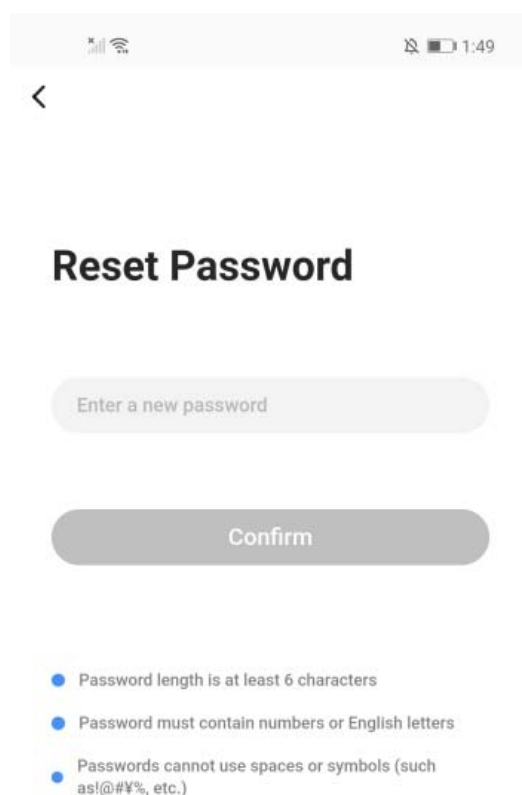

Fig.4
- 4) Click the “Reset Password”, it will jump to the Fig. 4 interface.